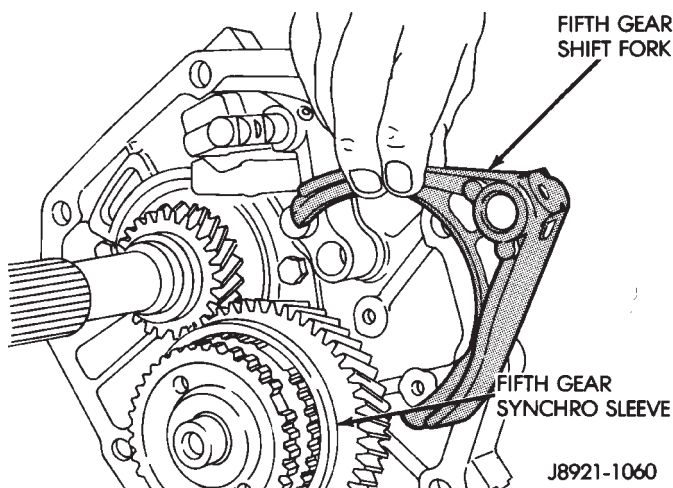

Fig. 54 Remove Fifth Gear Shift Fork
(5) Move fifth gear shift rail forward until the rail is clear of the shift fork.
(6) Remove the fifth gear shift fork from the synchronizer sleeve (Fig. 54).